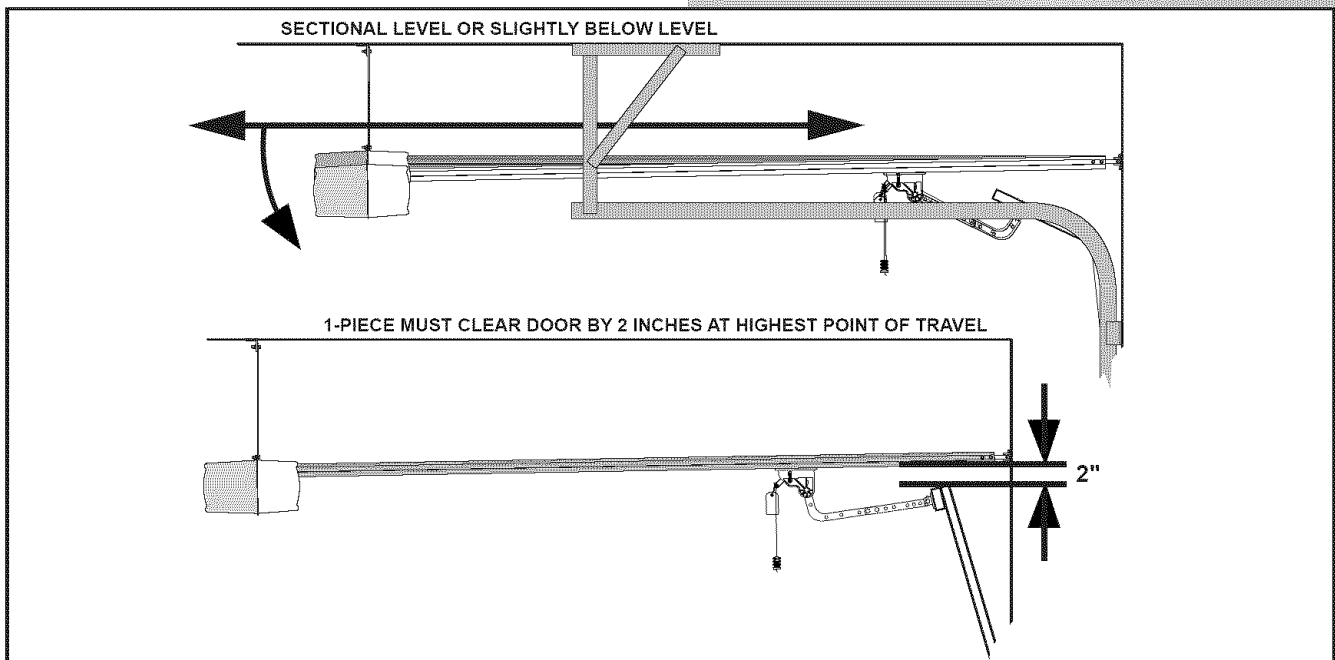

Fig. 2-10
- a. for sectional doors rail should be level with floor or slightly below level. **Fig. 2-10.**
- b. for 1-piece doors rail should clear door by about 2 inches. **Fig. 2-10.**